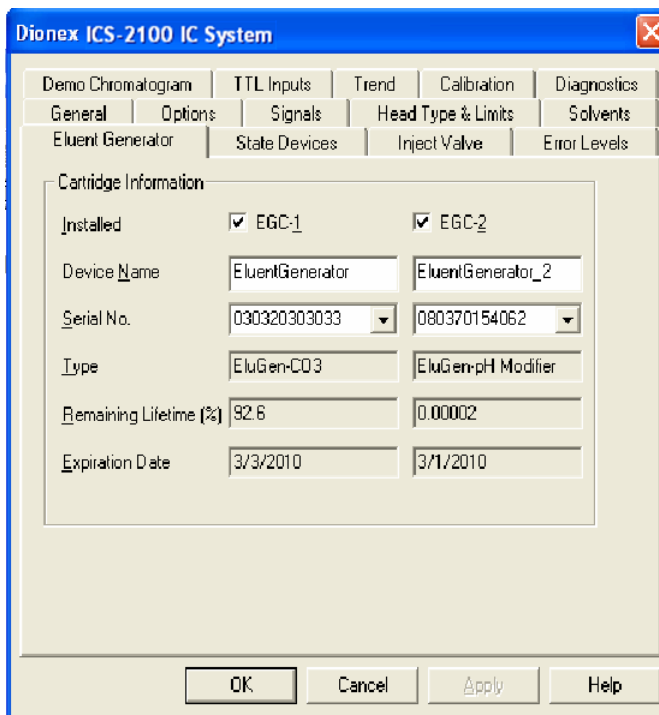

Figure 69. Eluent Generator Configuration Properties: CO₃/Dionex EPM Example
3. Click the **Eluent Generator** tab (see Figure 69).